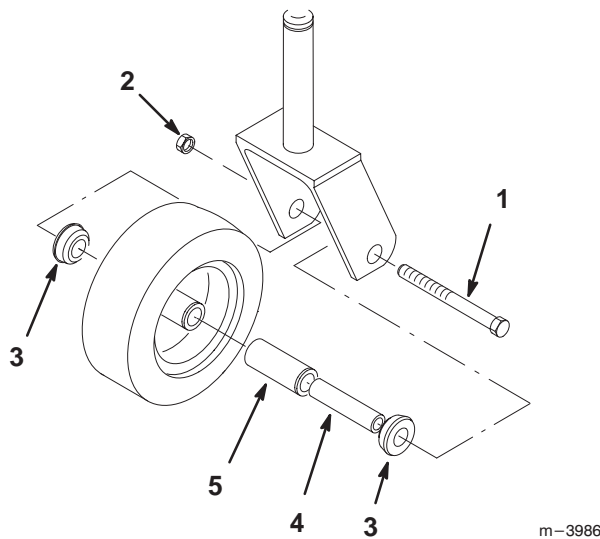

Figure 29
1. Remove the locknut and wheel bolt holding the castor wheel to the castor fork (Fig. 29).
2. Remove one bushing, then pull the spanner bushing and roller bearing out of the wheel hub (Fig. 29).
3. Remove the other bushing from the wheel hub and clean any grease and dirt from the wheel hub (Fig. 29).
4. Inspect the roller bearing, bushings, spanner bushing and inside of the wheel hub for wear. Replace any defective or worn parts (Fig. 29).
5. To assemble, place one (1) bushing into the wheel hub. Grease the roller bearing and spanner bushing and slide them into the wheel hub. Place the second bushing into the wheel hub (Fig. 29).
6. Install the washers on the outsides of the bushings, then install the castor wheel into the castor fork and secure with the wheel bolt and locknut. Tighten the locknut until the spanner bushing bottoms against the inside of the castor forks (Fig. 29).